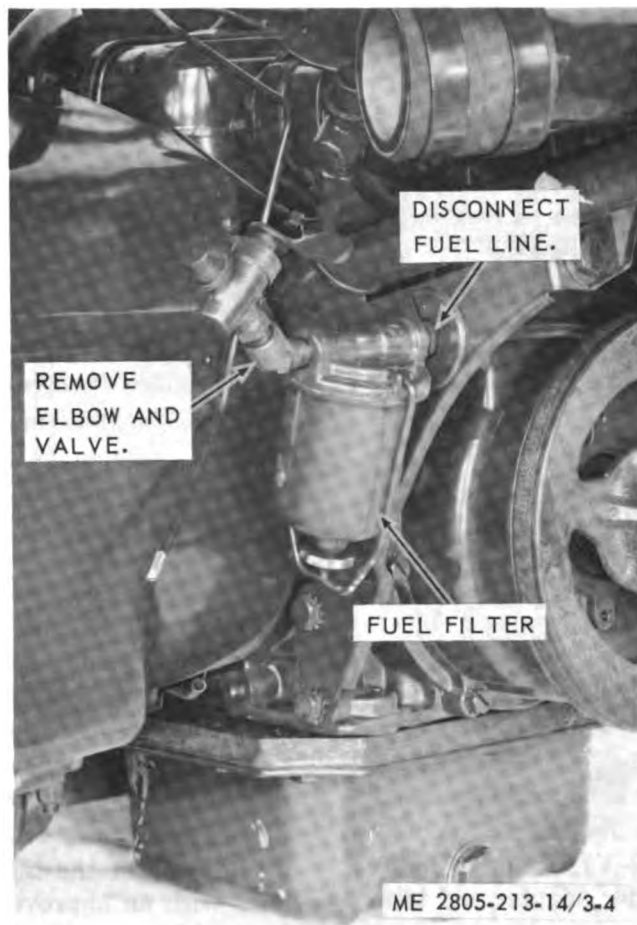

Figure 3-4. Fuel filter, removal and installation (Model AO42-V).
b. *Removal* (Model AO42-V). Refer to figure 3-4 and remove the fuel filter.
(1) Clean the fuel filter and component parts with an approved cleaning solvent and dry thoroughly.
(2) Inspect the fuel filter for cracks, breaks, and other damage. Replace a defective fuel filter.
d. Installation. (Model AO42-V). Refer to figure 3-4 and install the fuel filter.